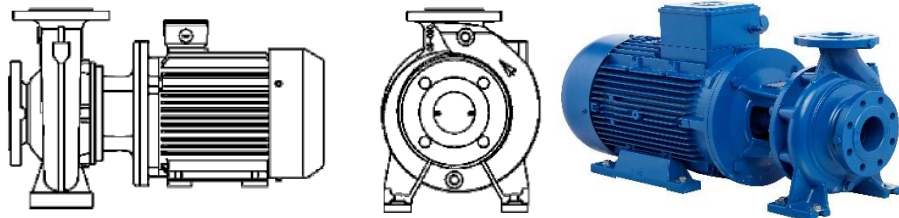

Figure 7 Close-Coupled, Single-Stage, End-Suction Pump
- **The close-coupled pump is mounted on a horizontal motor supported by the motor or pump foot mountings (Figure 7).**